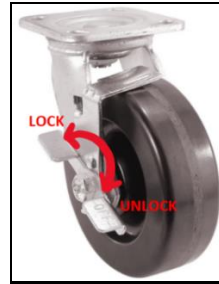

Figure 3
4. Lock the three wheels by turning the brakes to the on position (see Figure 3).